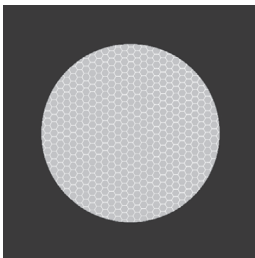

FIGURE 2.6. FIXED-PATTERN NOISE
(3) Black Spots. These are cosmetic blemishes in the image intensifier or dirt or debris between the lenses. Black spots are acceptable as long as they do not interfere with viewing the image. **No action is required if this condition is present unless the spots interfere with the operator's ability to view the image or to perform the mission.**
(4) Fixed-Pattern Noise. This is usually a cosmetic blemish characterized by a faint hexagonal (honeycomb) pattern throughout the viewing area that most often occurs at high light levels or when viewing very bright lights (see Figure 2.6.). This pattern can be seen in every image intensifier if the light level is high enough. **This condition is acceptable as long as the pattern does not inter-**